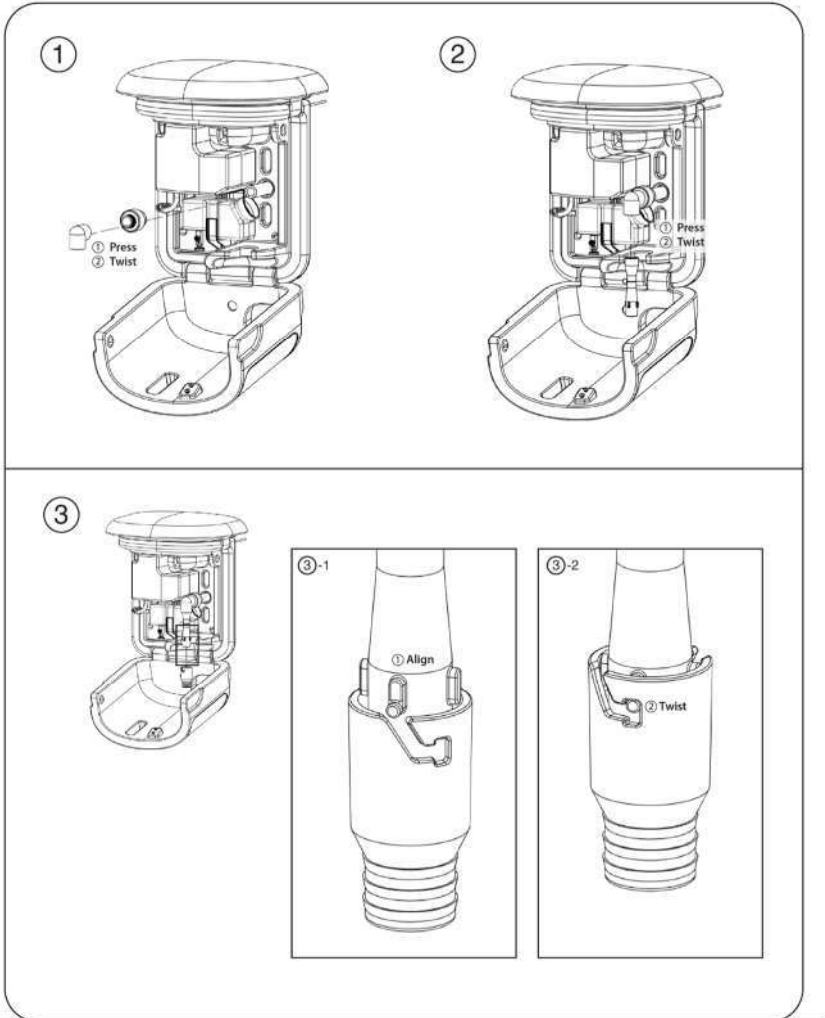

Figure 16: Venturi and spout (bottom right) installation and orientation
4. Press in the spout onto the bottom of the Venturi. Turn the spout so the pegs on the Venturi lock it in place (see Figure 16).